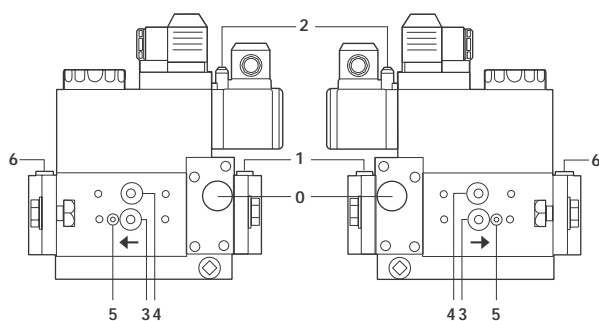
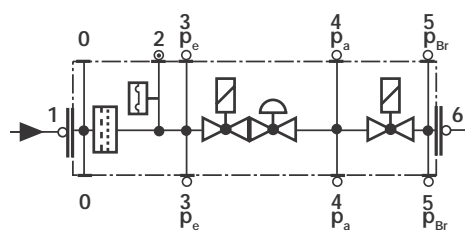

Fig. 31
Fig. 32
- Change the filter if the pressure difference between pressure connection 1 and 3 (Fig. 31-Fig. 32) is $\Delta p > 10$ mbar.
- Change the filter if the pressure difference between pressure connection 1 and 3 (Fig. 31-Fig. 32) is twice as high compared to the last check.